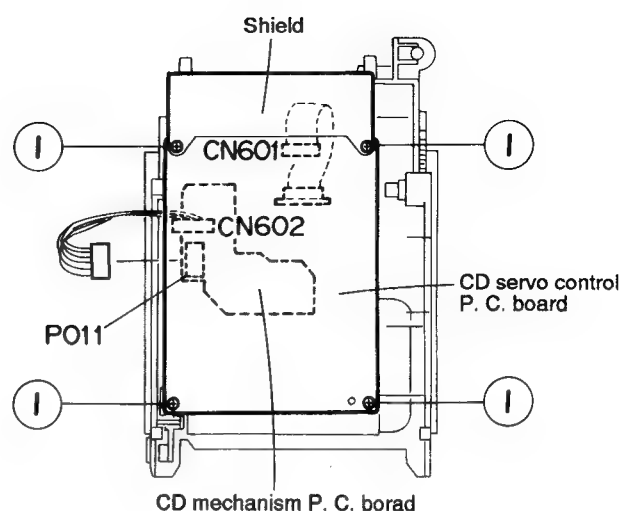

Fig. 5-28
■ Removing the CD mechanism and CD servo control P.C. board (See Figs. 5-28 and 5-29)
4. After turning back the CD player unit, remove the four screws ① retaining the CD servo control P. C. board and shield.
7. Remove the four screws ② retaining the CD mechanism.